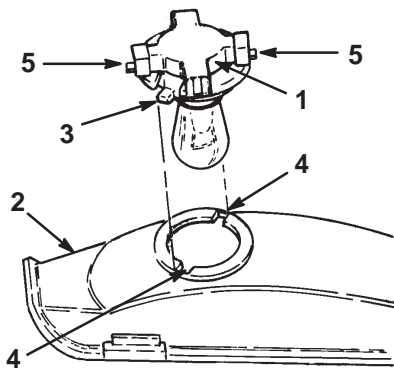

Figure 31
6. Rotate the bulb holder 1/4 turn counterclockwise and remove it from the reflector (Fig. 31).
2. The bulb holder has 2 tabs (Fig. 31). Align the tabs with the slots in the reflector, insert the bulb holder into the reflector, and rotate it 1/4 turn clockwise until it stops.